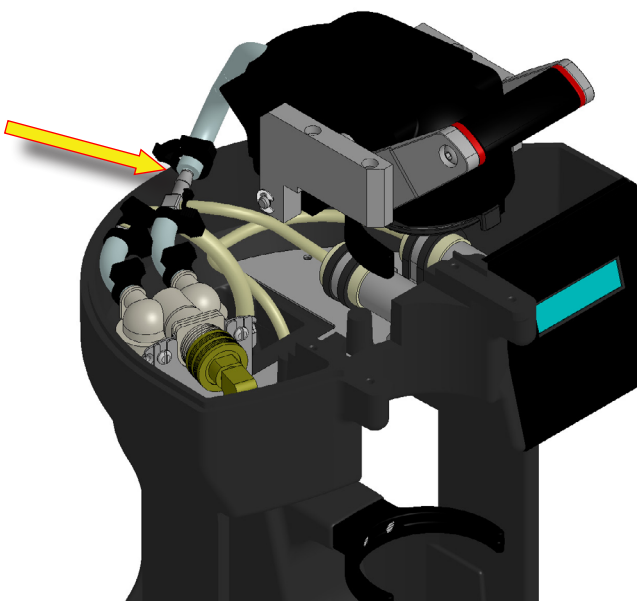

FIG. 5-2
3. Disconnect braided hose from Tee fitting. FIG 5-2